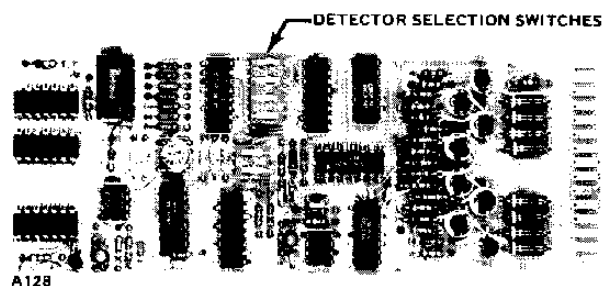

Figure 8—Automatic  $\alpha_i$  Board
**Automatic  $\alpha_i$  - Board No. 5**—The Automatic  $\alpha_i$  board (Figure 8) provides the circuitry to sequentially test each detector, to send fault indications to the detector monitor board and to drive the left hand (detector identification) digital display. It also contains two rocker switch assemblies. The switch assembly with four rockers is used to select the number of detectors connected to the controller. Refer to the "Installation" section for switch setting instructions. The switch assembly with two rockers sets the low level (automatic  $\alpha_i$  threshold) sensitivity of the controller. It is set at the factory, and should not normally be reset in the field. For further information, consult Detector Electronics' Customer Service Department.